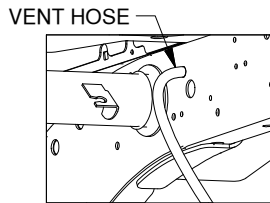

Figure A4
9. **Temporarily remove vent hose.** Remove the vent hose that is installed into a hole on the inside of the passenger side frame rail just behind the rear axle, see Figure A4. This hose will be replaced at the end of the install.